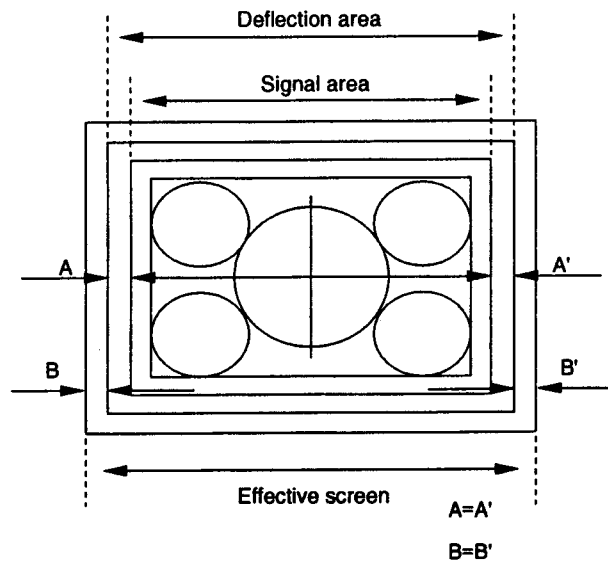

Fig.5-4
7. Adjust **[60 VIDEO PHASE]** so that the signal area will be in the center ($A = A'$) of the deflection area. (Fig.5-4)